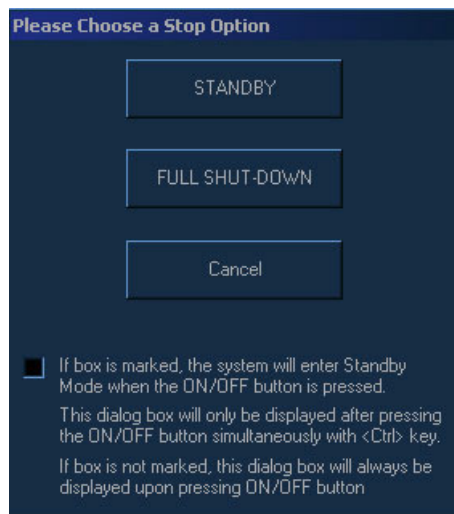

Figure 3-21 Shut-Down Options Screen
- By holding down the **On/Off** button for more than 3 seconds, the unit will display a shutdown menu, enabling the operator to shutdown the system to standby mode or to perform a full shutdown (see Figure 3-21 on page 3-35).